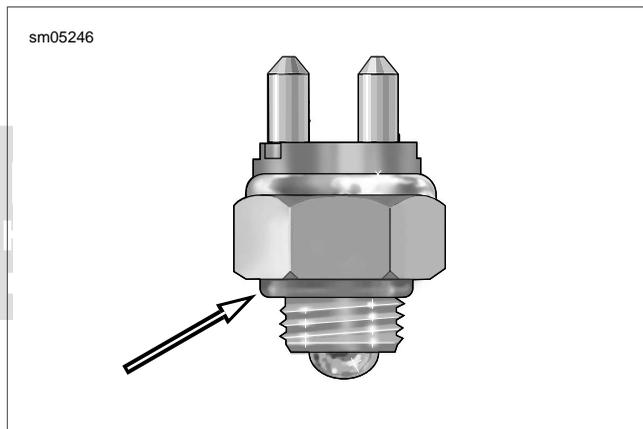

Figure 8-83. Neutral Switch O-Ring
1. Inspect O-ring for cuts, tears or general deterioration. Replace as necessary. Lightly lubricate **new** O-ring with clean transmission oil before installation. See Figure 8-83.